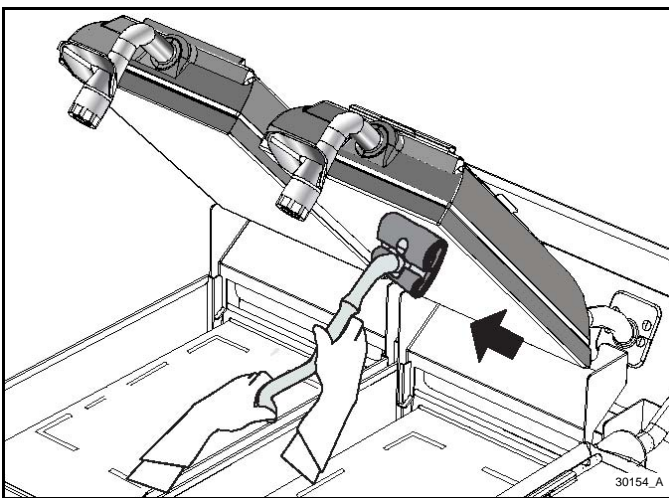

Figure-112
19. Using the Kay® grill cleaning pad holder, distribute the grill cleaner around the upper platens to ensure full coverage. See Figure-112.